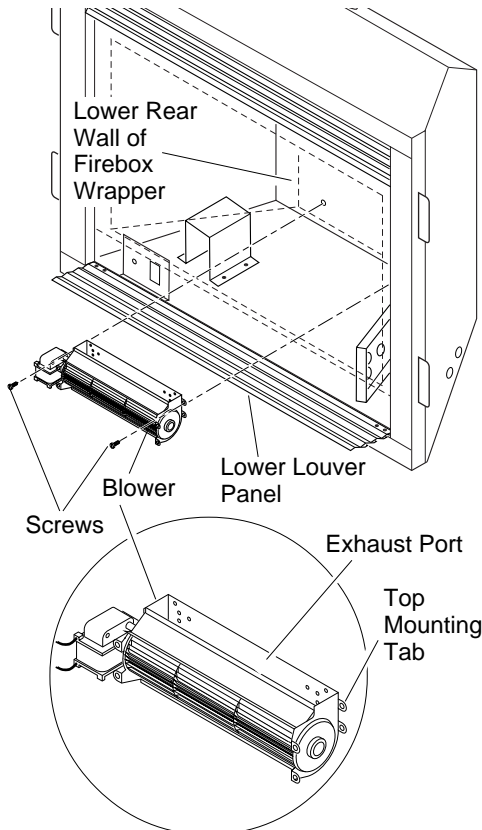

Figure 31 - Mounting Blower to Firebox
**IMPORTANT:** For clarity, gas valve assembly and grate/burner assembly are not shown in Figures 31 through 34, page 17. They will, however, be in your fireplace when you are installing the blower. Also for clarity the firebox is shown with dotted lines.
2. Place the blower against the lower rear wall of firebox outer wrapper with the exhaust port directed upward. Align the holes in the top mounting tabs of blower with holes in wall of wrapper (see Figure 31, page 17). Using the two screws provided, mount blower and tighten screws securely.